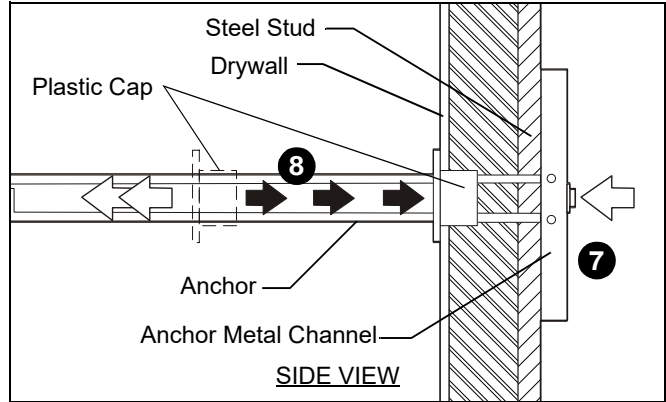

Figure 4
7. Holding plastic straps on anchor (L), pull anchor away from wall until channel rests flush behind wall making sure anchor channel is positioned vertically on stud. (See Figure 4)
8. Slide plastic cap on anchor towards wall until flange of cap is flush with wall. (See Figure 4)